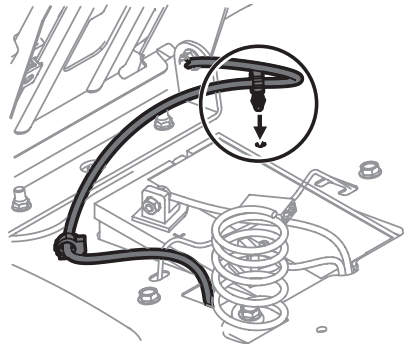

Figure 7
5. Using the harness clip attached to the harness, secure the excess wire to the fender by snapping the harness clip in place as shown in Figure 7.